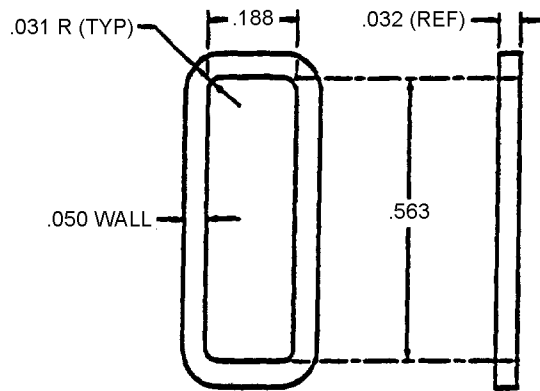

Figure 36. GC21E1 Loop, Strap Fastener
48. **GE21E1 LOOP, STRAP FASTENER.** A loop can be used as an aid to hold the clamp closed (Figure 36).